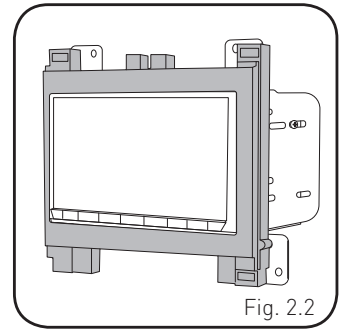

Fig. 2.2
14. Place the bezel onto the radio and secure it with the six Phillips screws provided with the CHA1. (Fig. 2.2, 2.3)